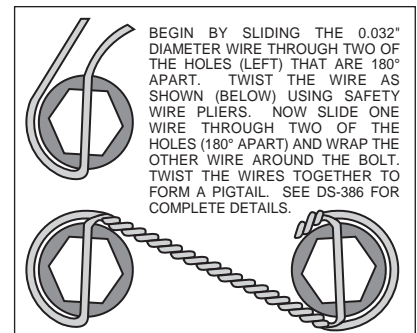

Figure 4. Safety Wire Diagram
- Apply red *Loctite*® 271 to bolt threads (4 and 6, or 6A for disc spindle application) before assembly of the caliper mounting bracket (1). Mount bracket (1) to dust face plate of spindle using the bottom bolt (4) while positioning washers (2 and 3) between bracket and spindle face, finger tighten only. Slide the upper bolt (6) through the bracket (1) and washer (5) (or, for disc brake spindle, use 6A with spacer 2A and washer 5 positioned between bracket and top hole of spindle face) and into the spindle, torque to 140 ft-lb. Torque bolts (4) to 85 ft-lb. **NOTE:** Be sure the heads of the bracket (1) insert nuts are facing outward toward the wheel.
- Install wheel studs (7) into the hub (8). Torque to 77 ft-lb. **NOTE:** There are two five lug patterns in the hub (5 x 4.50 and 5 x 4.75). Make sure of the correct hole pattern for the correct wheel application before installing studs into hub.
- Pack the large inner bearing cone (9) with high temperature disc brake bearing grease (available from your local auto parts store) and install into the backside of the hub (8).
- Install the grease seal (10) by pressing into the backside of the hub (8).
- Attach rotor adapter plate (11) to rotor (12) using bolts (13). Torque bolts (13) to 180 in-lb. Safety wire bolts (13) using standard 0.032 inch diameter stainless steel safety wire as shown in Figure 4. Please refer to Wilwood's data sheet DS-386 (available at www.wilwood.org/ds386.pdf) for complete safety wire installation instructions. **NOTE:** Dished side of adapter plate (11) should face hub (8). The mounting tabs on the rotor (12) should face toward the hub as well and line up with the holes on the adapter plate (11).